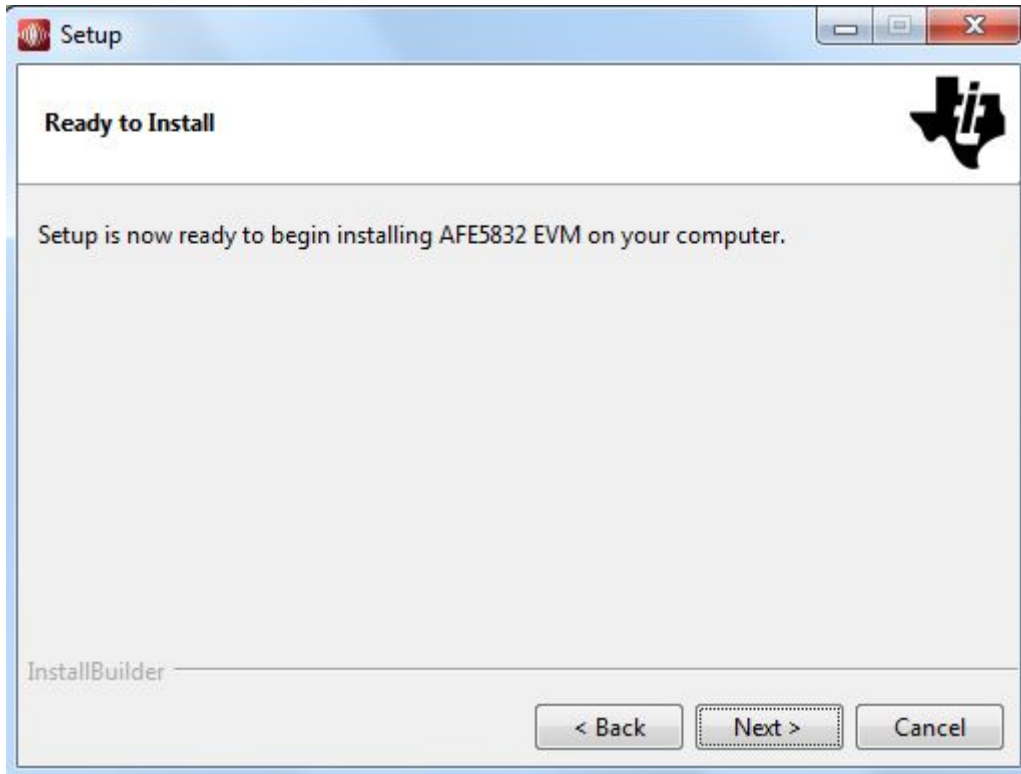

Figure 37. AFE5832 GUI Install (Installation Ready)
- Pressing the *Next* button begins installation, as shown in Figure 37.